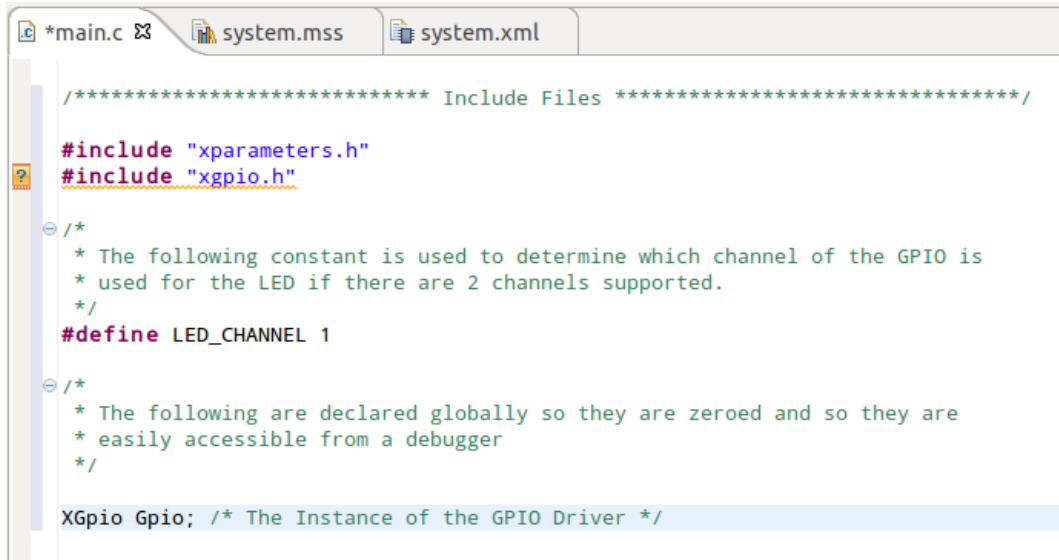

Figure 4.17.: main.c after preparation from example driver function
6. Add those to *main.c* file and it should now look like as in Figure 4.17.